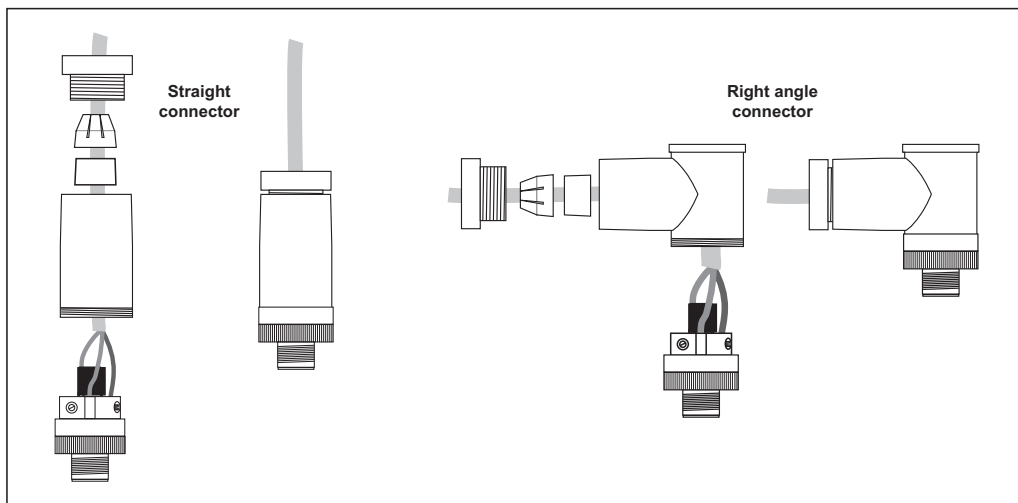

Figure 3-5. HDP Connector Components: Assembly
6. Assemble the HDP connector as shown in Figure 3-5, page 3-6.